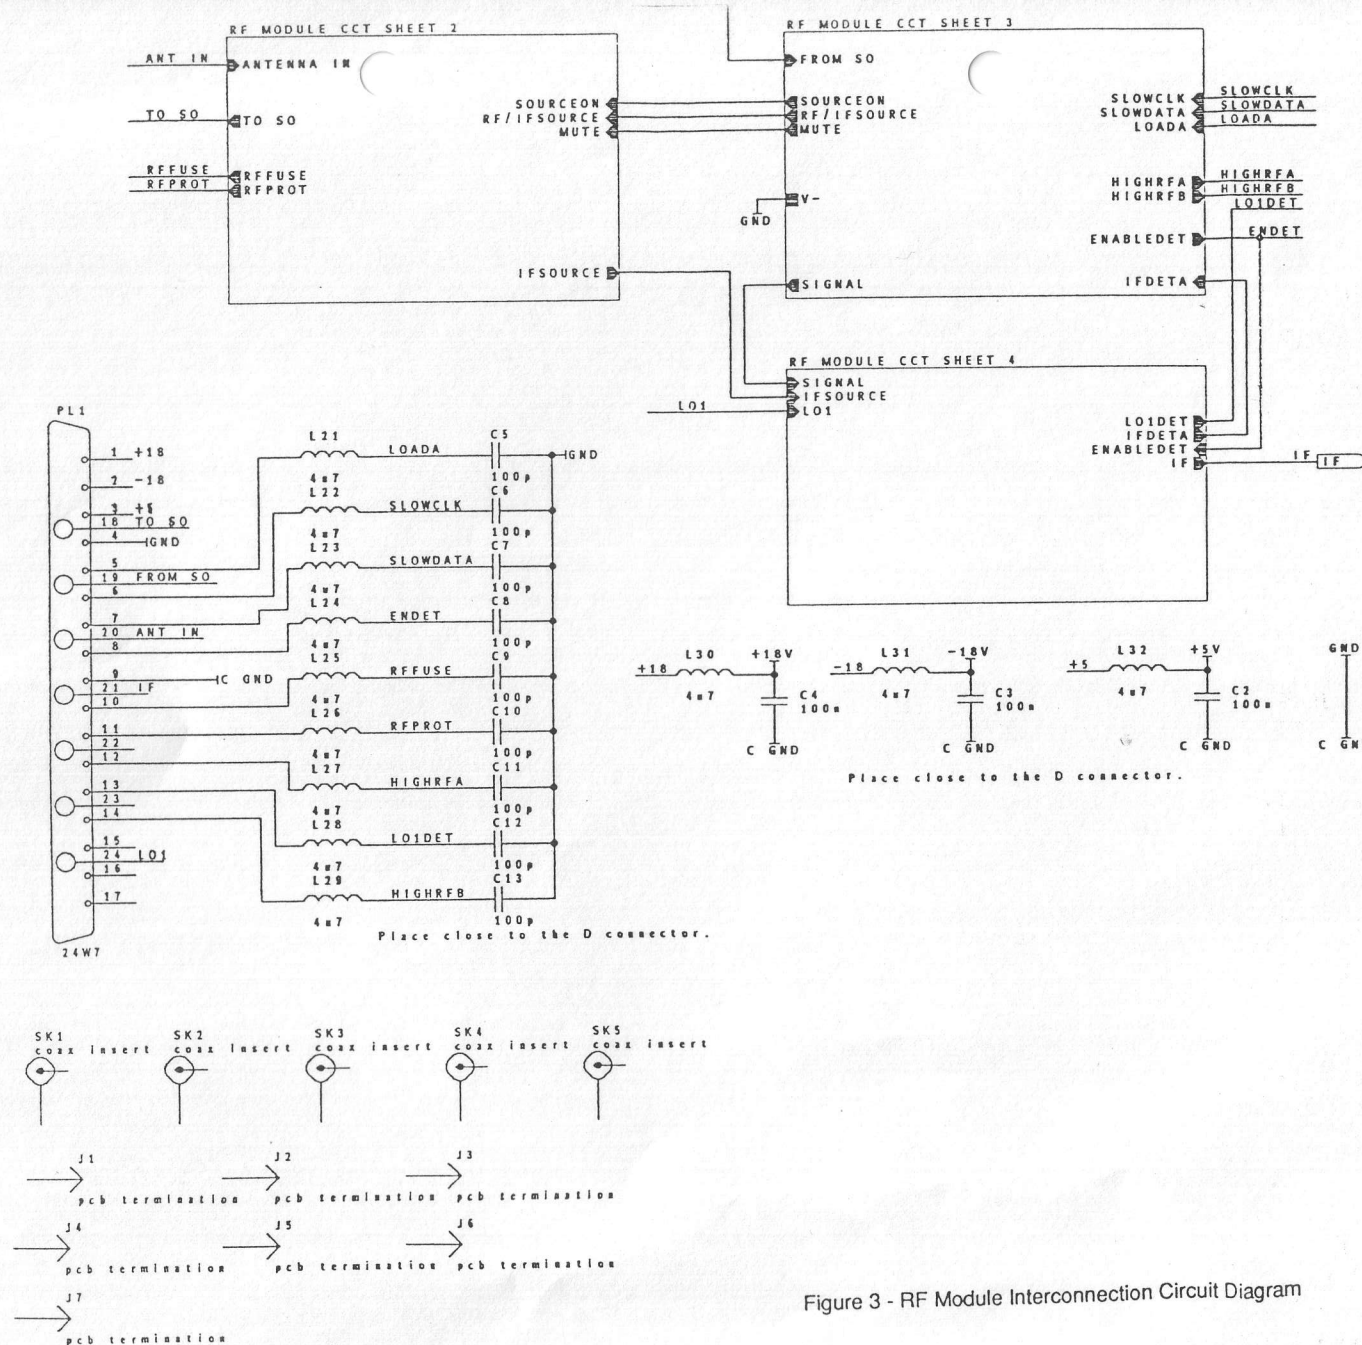

Figure 3 - RF Module Interconnection Circuit Diagram
- Figure 3 IF Module Circuit Diagram, sheet 1 of 3